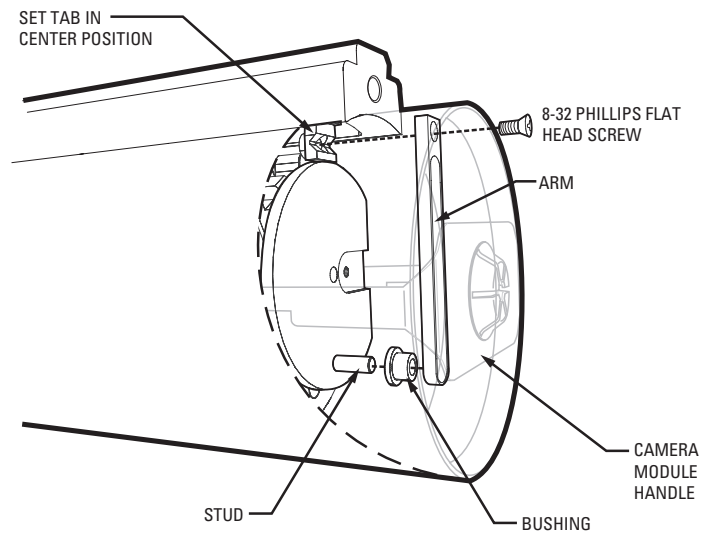

Figure 14. Remove or Install Camera Module
2. Remove the 8-32 Phillips flat head screw that secures the camera module inside the camera enclosure (refer to Figure 14).
3. **Models with a wiper:** Remove the wiper arm and the green bushing from the unit (refer to Figure 14).
6. **Models with a wiper:** Refer to Figure 14 and do the following to reinstall the arm of the wiper:
7. Secure the camera module and the wiper arm with the 8-32 Phillips flat head screw (refer to Figure 14).